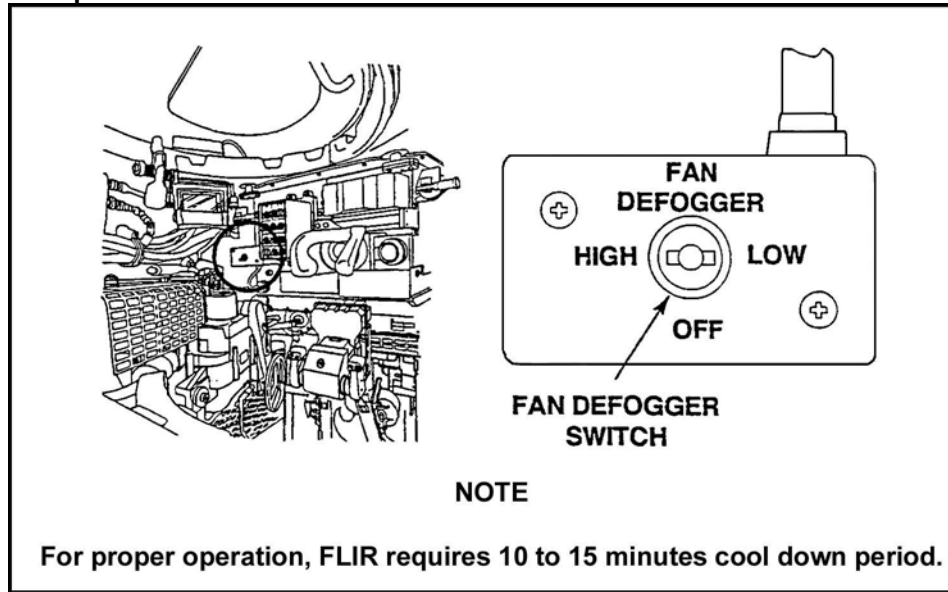

Figure 17. Fan defogger switch.
- (d) In the power mode, dry cycle the 25mm gun twice in high explosive (HE) and twice in armor piercing (AP).
- (7) During normal operating conditions, ensure the IBAS defogger fan switch is in the OFF position (Figure 17).